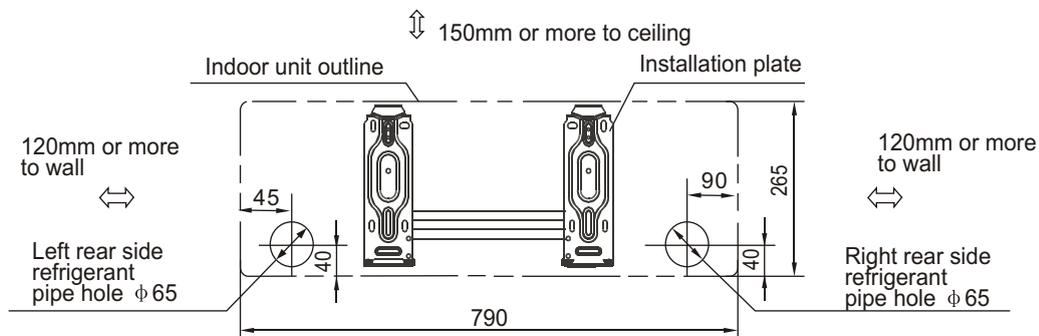

Fig.5
1. Determine hole positions according to the diagram detailed in Fig.5. Drill one (1) hole (ϕ 65mm) slanting slightly to outdoor side.